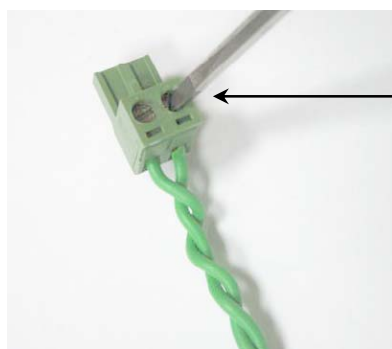

Figure 1.40
- At the location of the perimeter switch, cut the loose perimeter wire so both wires are of equal length, removing any excess wire. Strip back 5 mm (0.2 in) of insulation from the wire end. Insert the wire end to the free hole in the connector and tighten the screws as shown in figure 1.40.